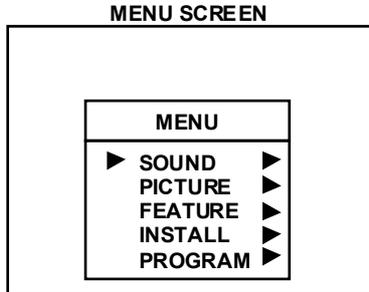

Fig.1
- 2) MENU screen of fig.1 will be displayed